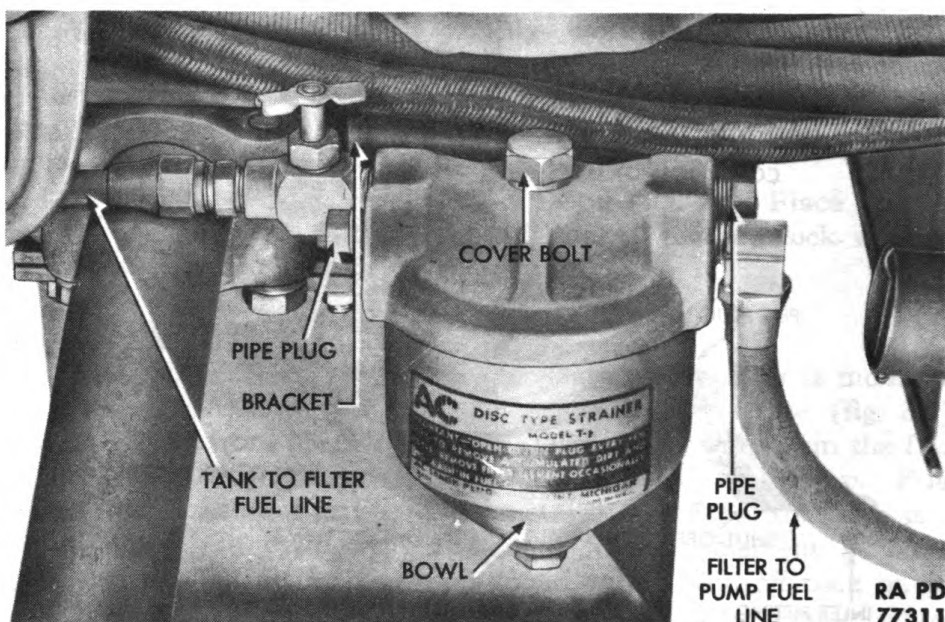

Figure 38 — Gasoline Filter Installed
(1) **DISCONNECT FUEL LINES** (fig. 38). Disconnect tank to filter fuel line from filter. Disconnect filter to pump fuel line from filter.
(2) **REMOVE FILTER FROM BRACKET** (fig. 38). Remove both cap bolt nuts, lock washers, and bolts which secure filter to bracket. Lift filter from bracket.
(1) **ATTACH FILTER TO BRACKET** (fig. 38). Place filter in position on its bracket. Install two cap bolts, lock washers, and nuts.
(2) **CONNECT FUEL LINES** (fig. 38). Connect tank to filter fuel line to fitting on rear of filter. Connect filter to pump fuel line to fitting on front side of filter.
(3) **FILL FILTER WITH FUEL** (fig. 38). Loosen one of the two